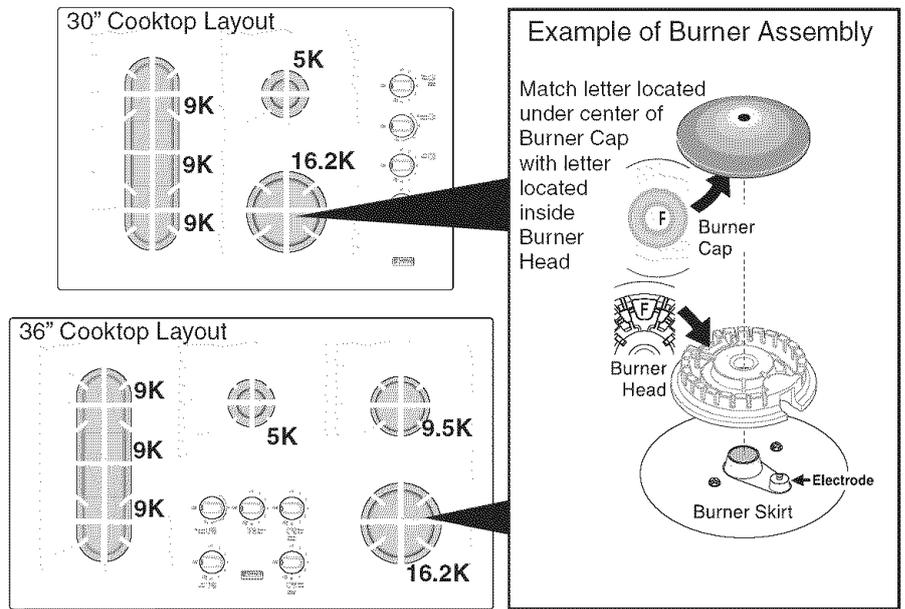
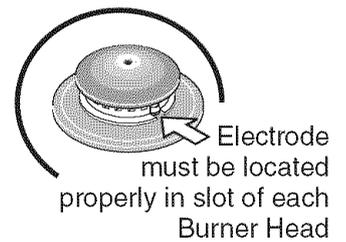

Figure 1
Figure 3
2. Remove all packing tape from cooktop. Remove Burner Caps and Burner Heads (See Figure 1).
4. To replace Burner Heads & Caps, match the letters located under center of Burner Caps with the letters located inside Burner Head (only 5K, 9.5K and 16.2K burners are marked with letters - See Figure 1). Place all Burner Heads & Caps on the cooktop (See Figure 1) while carefully aligning the Electrodes into slots or holes of the Burner Heads (Figure 3). Note: The Burner Heads should sit flat on Cooktop Burner Skirts.